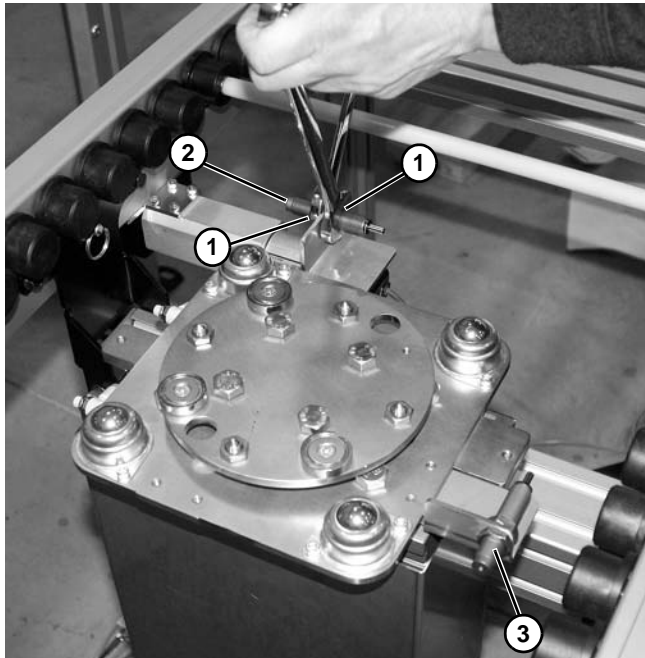

Figure 57
3. Turn nuts (**Figure 57, item 1**) to position dampener (**Figure 57, item 2**). Secure position by tightening both nuts. Final rotation should be set by hard stop, not dampener end of stroke.
4. Repeat procedure on second dampener (**Figure 57, item 3**).